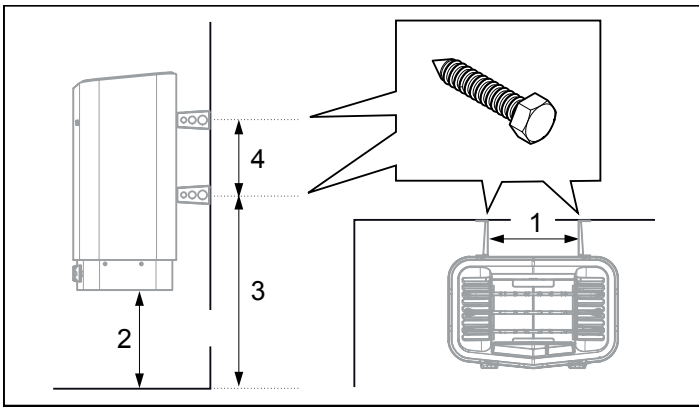

Figure 13: Dimensioning
7. Position the bracket screws according to the specified dimensioning see Fig. 13.